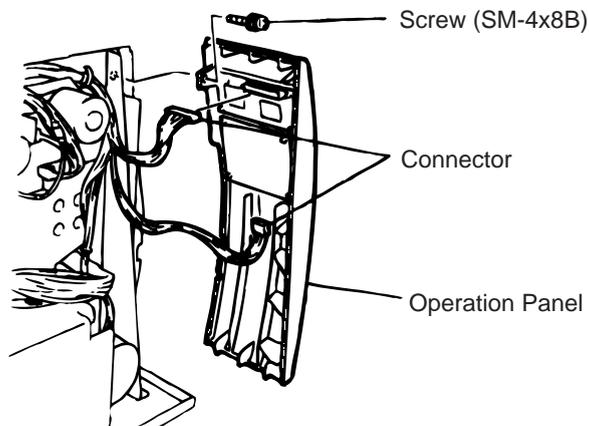

Fig. 3-3
2. Remove the operation panel. (See Fig. 3-3.)